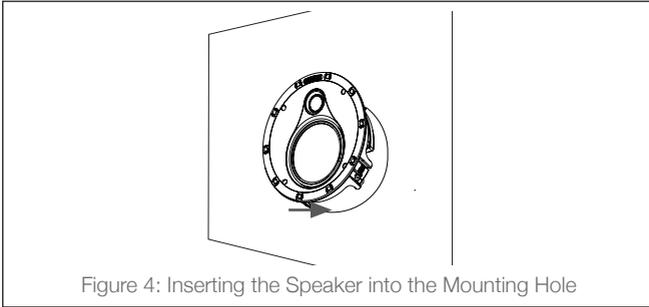
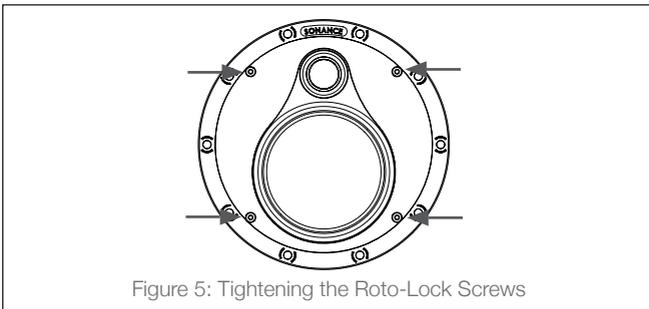

Figure 4: Inserting the Speaker into the Mounting Hole
Figure 5: Tightening the Roto-Lock Screws
6. Insert the speaker into the mounting hole (Figure 4) and tighten the four screws on the front of the speaker baffle. (Figure 5).